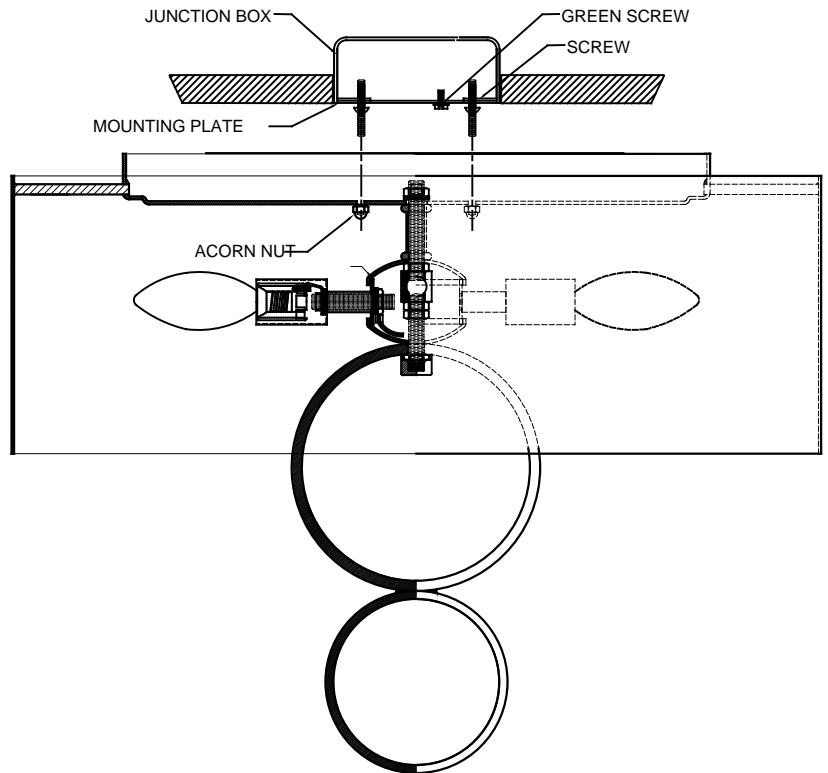

FIGURE-02
5. Attach the fixture to the junction box and secure it with acorn nut. (See Figure-02)